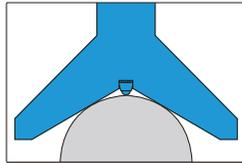

fig.1
- Fit the V-shaped surface of the radius gauge to the complete cylindrical edge of the workpiece (fig.1)